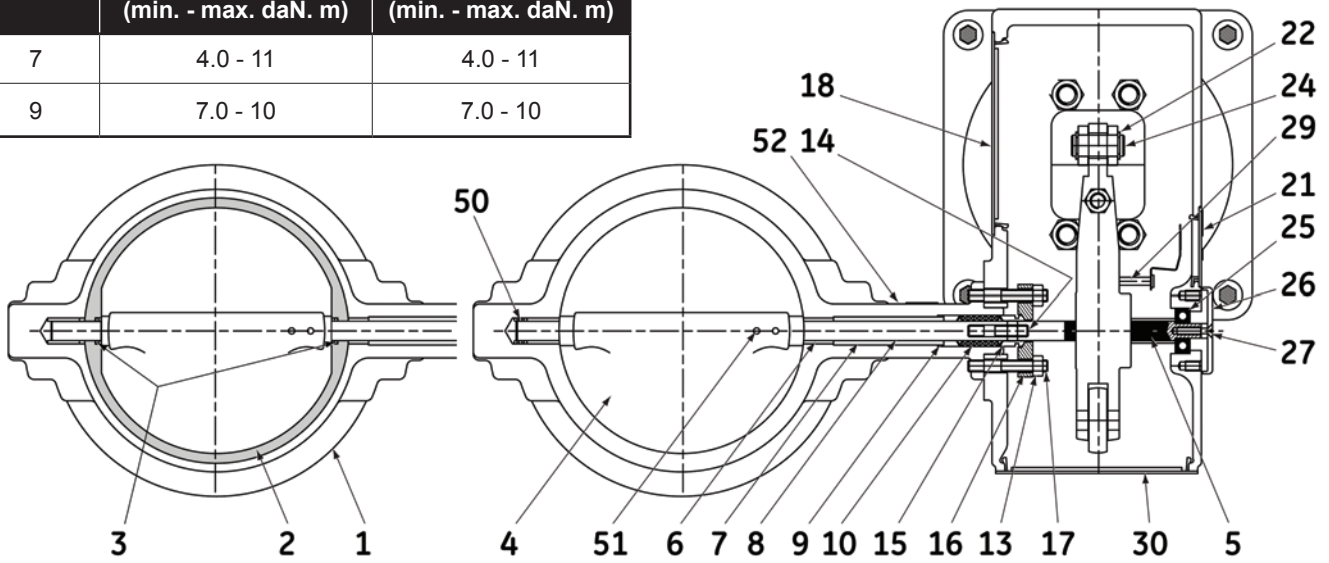

Figure 5
1. By-pass the MiniTork valve and relieve fluid pressure from body. Remove the front cover (21), rear cover (18) and spring barrel boss cover (33).
2. Pressurize the actuator such that the lever (35) takes an intermediate position. Remove clevis pin clip (22) and clevis pin (24) and release the pressure.
3. Remove cap screws (101) and lock washers (102). Separate actuator and install it on opposite side of yoke (34) with cap screws (101) and lock washers (102), applying proper torques. Refer to table of Figure 5 for proper screw torque values according to actuator size.
(Figures 5, 6, and 7)
8. Remove the valve body (4), the packing-box ring (9) and the spacer tube (7). **If the valve body has an elastomer sleeve (2)**, remove the sleeve and the two O-rings (3). Lastly, disengage the bearings (6) and the spring (50). (There is no spring (50) on valves with an elastomer sleeve. See Figure 5).
9. Examine all parts for damage due to erosion corrosion or wear. Replace all defective parts, pins (51) and all packing. Clean all reused parts thoroughly prior to reassembly.
(Figures 5 and 6)
1. Fit the spring (50) (**only on valve bodies without sleeve**) and the lower bearing in the body. Coat the shaft (8) with Molykote G (or equivalent) along the entire surface roughly corresponding to the spacer tube
2. **If the valve is equipped with a sleeve**, coat the two O-rings (3) with silicone grease and fit them inside the sleeve. Slide the sleeve into the body and align the shaft entry bore holes with those of the body (see Figure 5).
8. Fit the actuator and tighten it using cap screws (101) and lock washers (102) to the torque value indicated in Figure 5.
The handwheel is always mounted on the opposite side from the actuator (see Figure 5).